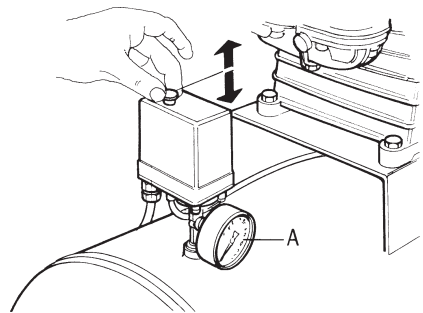

fig. 3
- check that the red button on the air pressure switch is in "OFF-0" position (*fig. 3*).
To switch off the compressor push the button to "OFF - 0" position (*fig. 3*).
There are two types of pressure regulators with a maximum pressure of respectively 8 and 10 bar. A higher pressure would hamper the proper functioning of the compressor. The pressure level for use is shown on the manometer A (fig. 6), whereas the inner tank pressure is shown by the manometer A (fig. 3).